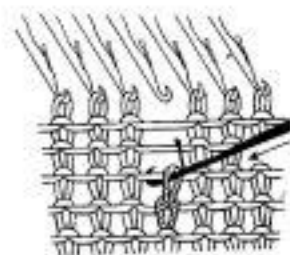

Fig. 38-6
5. Hook the final loop back on the empty needle. (Fig. 38-6)